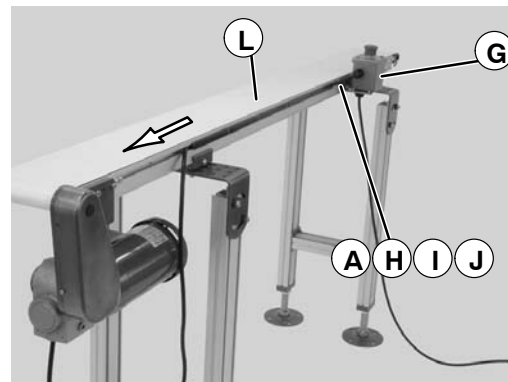

Figure 15
4. Figure 15 shows a typical wire routing of an E-Stop connection to the Conveyor motor using the Conveyor's T-slot with both T-Slot Closure Strips and Zip Ties (J).